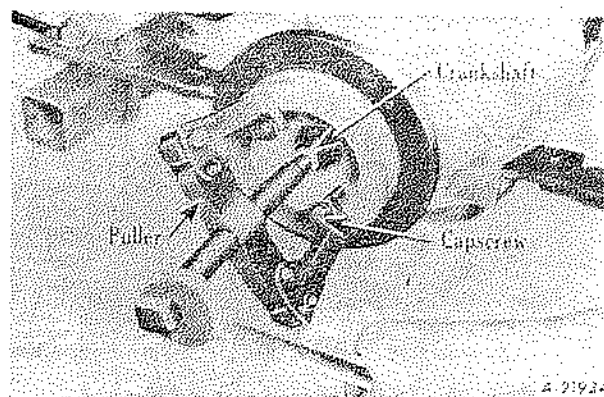
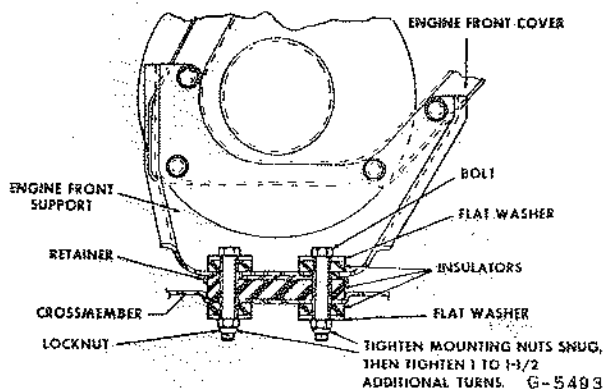

Fig. 19
Fig. 18
1. Remove front motor to frame bracket by removing two nuts (Fig. 18). Remove fan drive pulley nut and washer from end of crankshaft. Install puller and remove crankshaft fan drive pulley from crankshaft (Fig. 19). Remove 4 cap screws holding motor mounting bracket to block (Fig. 18).